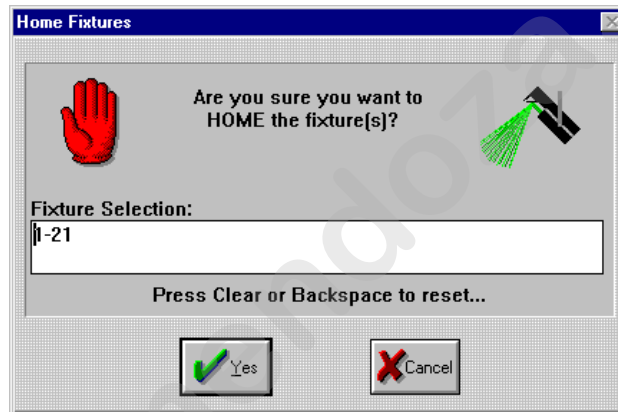

Figure 10.9. Home Fixtures Dialogue Box
1. Press the <HOME> key in the FIXTURE group (Figure 10.8). This brings up the **Home Fixture** dialogue box (Figure 10.9).